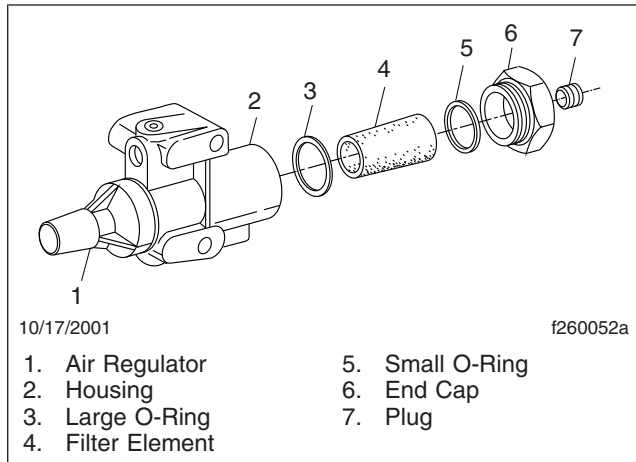

Fig. 9, Eaton Fuller Transmission Air Filter/Regulator Components
3. Remove the end cap, large O-ring, and filter element from the filter housing. See Fig. 9. Remove the small O-ring from the end cap.